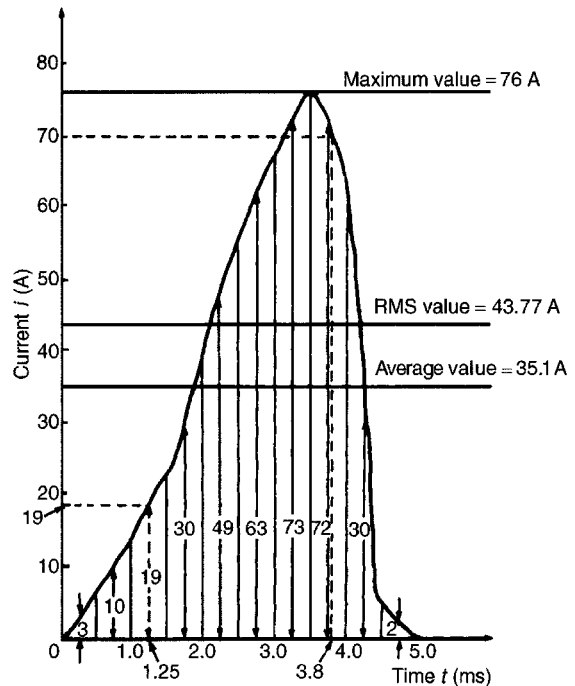

Figure 14.6
The half cycle of alternating current is shown plotted in Fig. 14.6
- (b) Instantaneous value of current after 1.25 ms is **19 A**, from Fig. 14.6. Instantaneous value of current after 3.8 ms is **70 A**, from Fig. 14.6
$$\begin{aligned} \left. \begin{array}{l} \text{area under} \\ \text{curve} \end{array} \right\} &= (0.5 \times 10^{-3})[3 + 10 + 19 + 30 \\ &\quad + 49 + 63 + 73 + 72 + 30 + 2] \\ &\quad \text{(see Fig. 14.6)} \\ &= (0.5 \times 10^{-3})(351) \end{aligned}$$